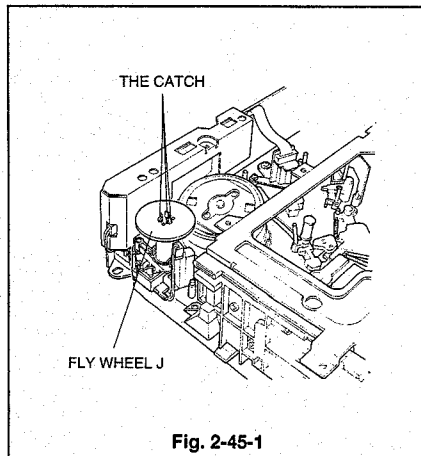
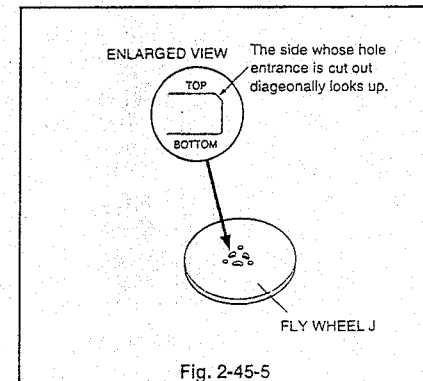

Fig. 2-45-1
Fig. 2-45-5
- ④ Make sure that the IMPEDANCE ROLLER SPRING-J is hooked at the catch ㉓ of the HOLDER TG shown in the Fig. 2-45-5.
- ⑤ Install the FLY WHEEL J on the ASSY IMPEDANCE ROLLER so that the side whose hole entrance is cut out diagonally looks up.
- ⑥ Make sure that three catches are tightly hooked on the FLY WHEEL. If they are not, hook them tightly with the tweezers. [Fig. 2-45-1]